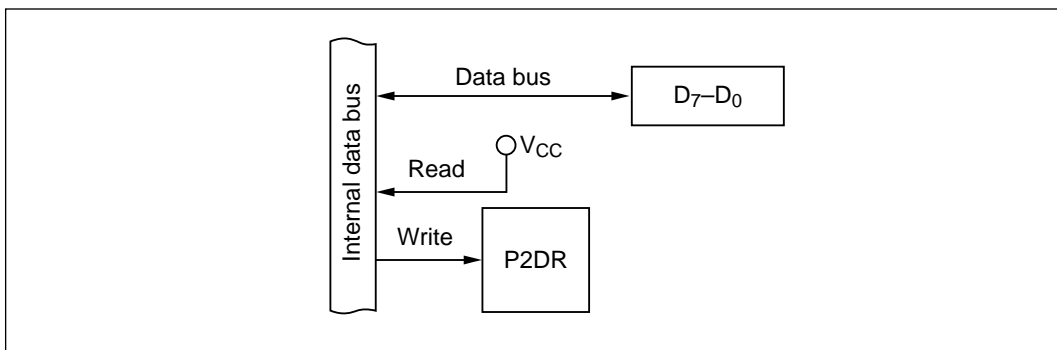

Figure 10-12 Data Bus: D₇ to D₀ (Modes 1, 3, 4, 5, and 6)
(1) Data Bus (All Pins: Modes 1, 3, 4, 5, and 6): Figure 10-12 shows a block diagram illustrating the data-bus function. Table 10-8 indicates register read/write data. When port 2 operates as a data bus, the values in the port 2 data register (P2DR) have no effect on the bus lines. When read, P2DR returns all 1s.